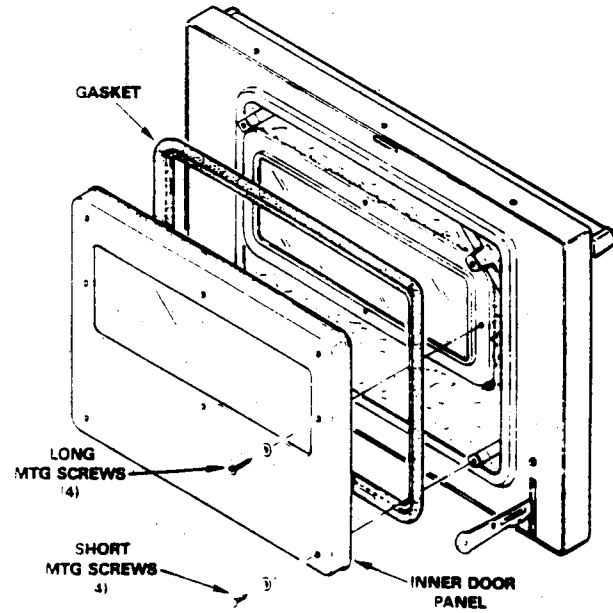

Fig. 2
3. Gasket and Inner Glass (Fig. 2)